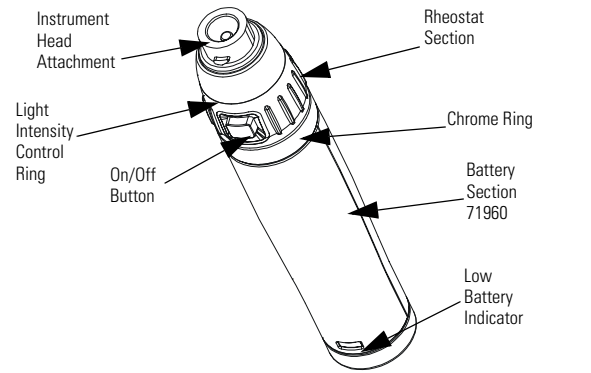

Figure 1
2. Depress On/Off Button on Rheostat Section and rotate the Light Intensity Control Ring clockwise (CW). To intensify light, continue to rotate until stop is reached (Figure 1).
1. The Low Battery Indicator will illuminate several minutes before handle shuts off depending on the age of the battery (Figure 1).